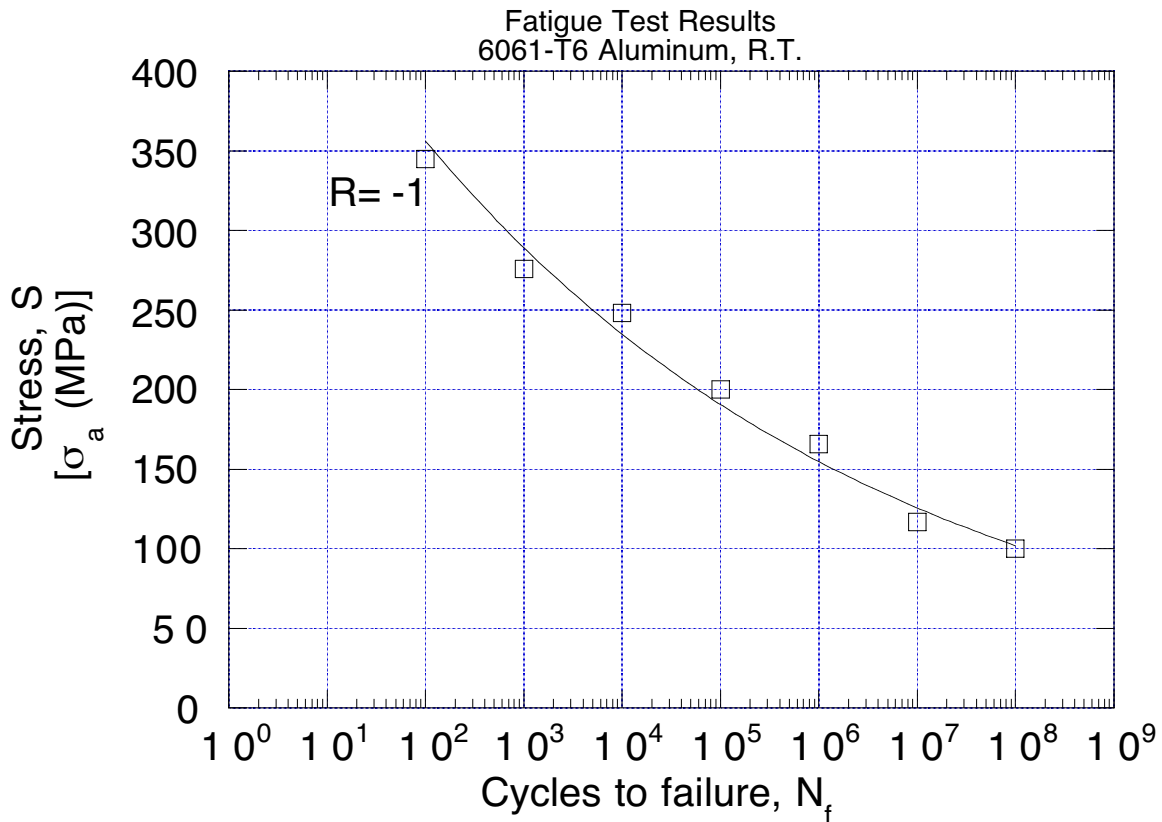

Figure 1 S-N curve for 6061-T6 aluminum at room temperature
Plot your test results as maximum stress,  $\sigma_{max}$ , versus log of cycles to failure,  $N_f$  in Figure 1. Note that a log scale is used for  $N_f$  so there is no need to compute  $\log N_f$ .
4) Plot the all the test results for R=0.1 on the S-N curve shown in Figure 1. For this material, is there evidence of a well-defined fatigue (endurance) limit,  $\sigma_e$ ? Is this what you expected?